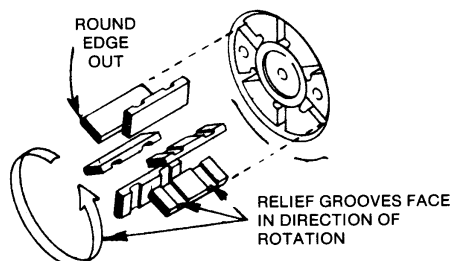

Fig. 6
Install three (3) of the vanes in the bottom slots of the rotor with the rounded edges out and the relief grooves facing in the direction of rotation (see Figure 6). Hold the vanes in place and install the three push rods. With the hand cupped under the rotor, slide the rotor and shaft into the liner. Install the remaining three vanes into the top slots of the rotor with the rounded edges out and the relief grooves facing in the direction of rotation. Put a light coating of oil on both ends of the shaft between the threads and the rotor.